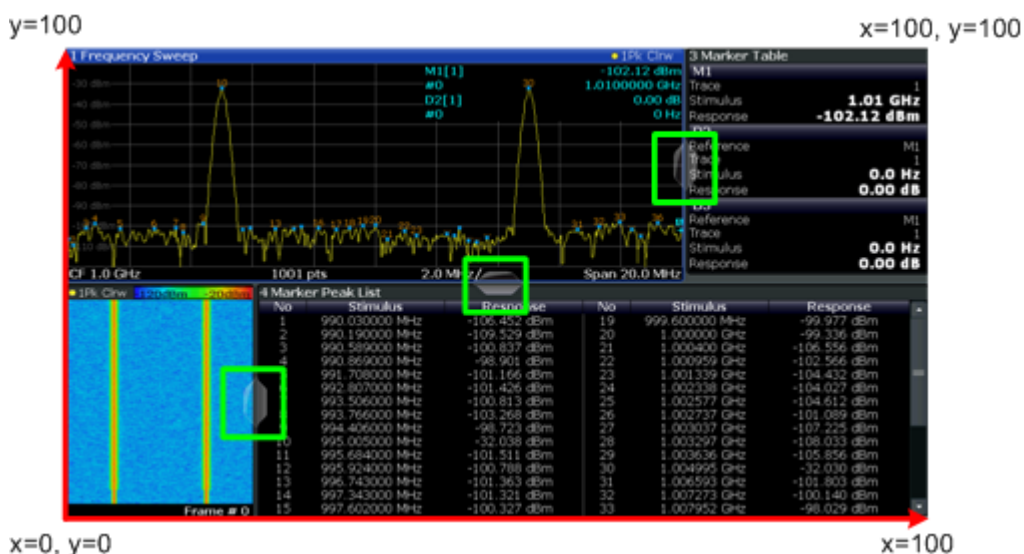

Fig. 11-1: SmartGrid coordinates for remote control of the splitters
- <Position> New vertical or horizontal position of the splitter as a fraction of the screen area (without channel and status bar and softkey menu). The point of origin ($x = 0$, $y = 0$) is in the lower left corner of the screen. The end point ($x = 100$, $y = 100$) is in the upper right corner of the screen. (See figure 11-1.)